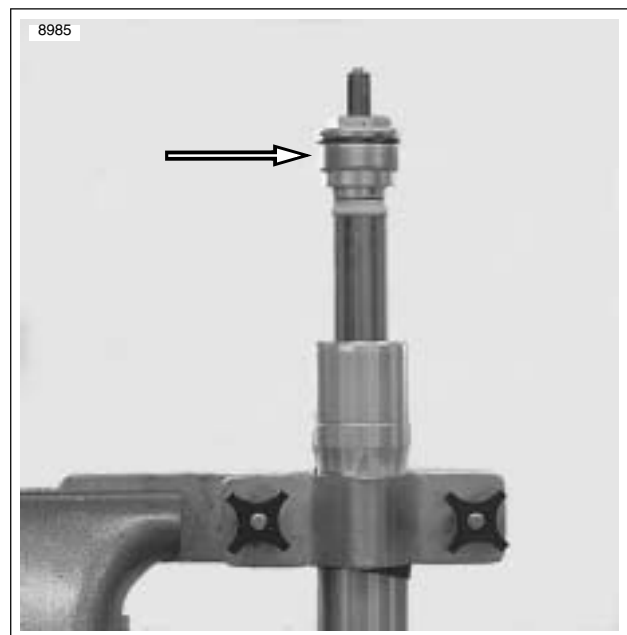

Figure 2-66. Removing Fork Cap From Outer Tube
5. See **Figure 2-66**. Remove fork cap from outer tube.